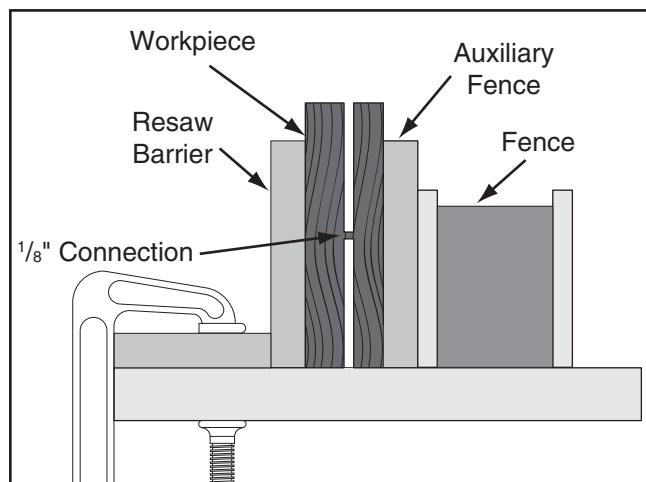

Figure 66. Ideal completed resaw cut.
- Raise the blade approximately an inch, or close to half the height of the workpiece (**Figure 66**), whichever is less.
- Repeat **Steps 7–9** until the blade is close to half of the height of the board to be resawn. The ideal completed resaw cut will leave an $\frac{1}{8}$ " connection when the resawing is complete, as shown in **Figure 66**. Leaving an $\frac{1}{8}$ " connection will reduce the risk of kickback.